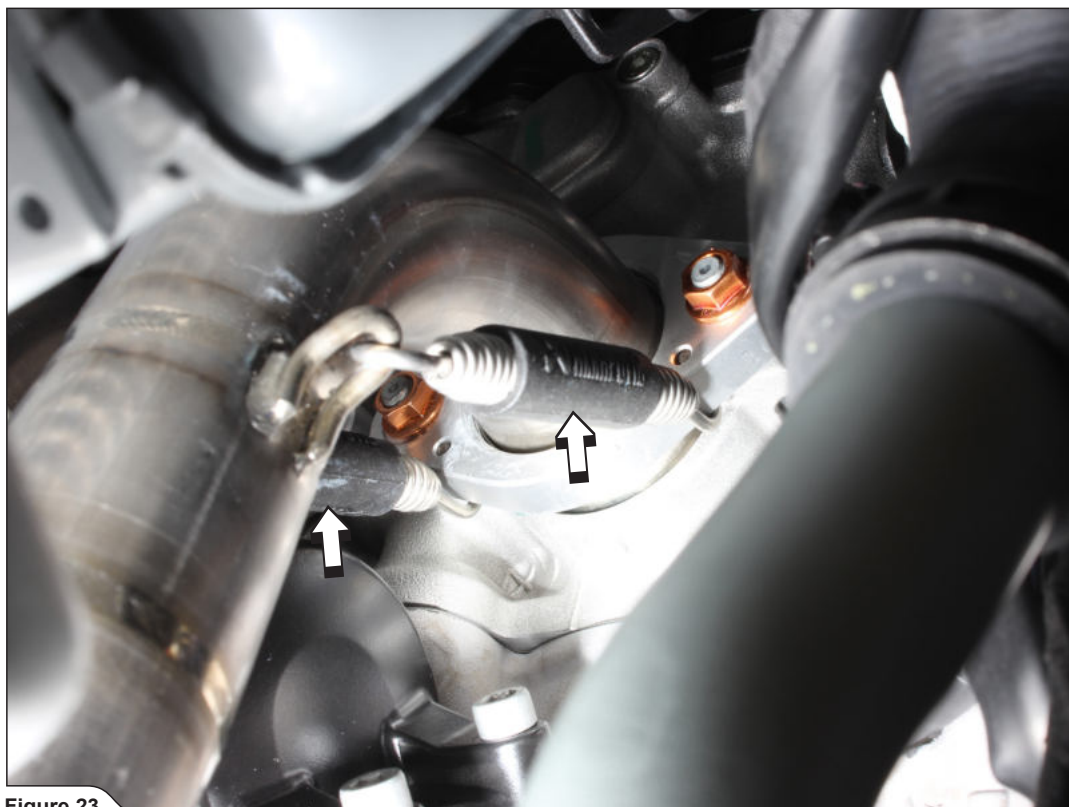

Figure 23
7. Insert the front headers into the sleeves and attach the springs (Figure 23).